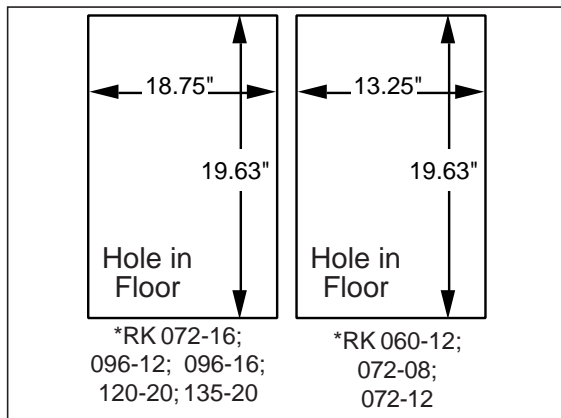

Figure 4. Opening in Wood Floor
1. Cut and frame the hole in the floor per the dimensions in Figure 4.